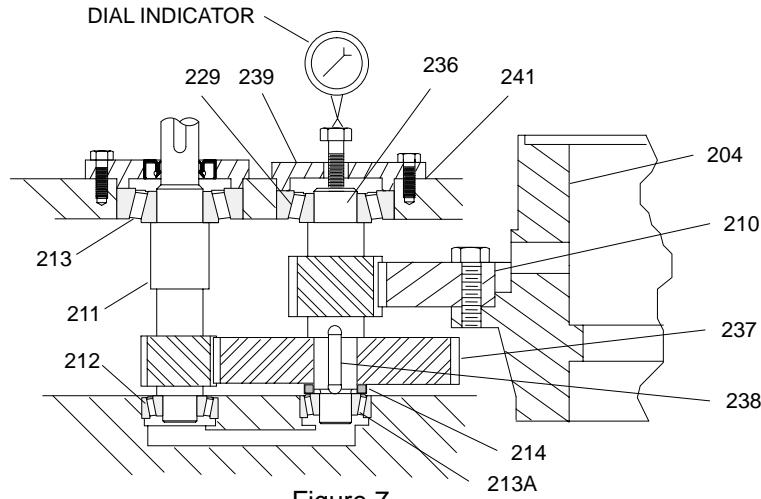

Figure 7
- i . Apply Loctite #515 gasket eliminator to the outer diameter of the oil seal (203) and install the oil seal. Refer to Machine Assembly drawing for the correct orientation. Align the seal to within .007" TIR using a dial indicator.
- j . With the use of two jacking screws or bolts, as described in Section 2.3-c, set the low speed gear (210) in place on the gear hub (204). You may have to rotate the pinion shaft to mesh the gear and pinion together. Be sure to line up the holes in the gear with the holes in the gear hub. Remove the jacking screws.
- k . Install the hex head cap screws (209) and secure the gear to the gear hub by drawing the gear down on the gear hub evenly with the cap screws (209).
- a . To seat the bearings, install the bearing retainer (239) without the shim set (241) and tighten the cap screws. Remove the bearing retainer and hardware.
- b . Install the bearing retainer (239) with a full new shim set (241) and tighten the cap screws. Remove the plug from the center of the bearing retainer and install a hex head cap screw (5/8-11 x 1-1/2" lg. minimum) into the tapped hole in the end of the pinion shaft (211).
- NOTE: The hex head cap screw must be installed so that it bottoms out in the tapped hole. Rotate the pinion shaft (211) to align the bearing rollers.
- c . Measure the axial float per the following procedure (refer to Figure 7):